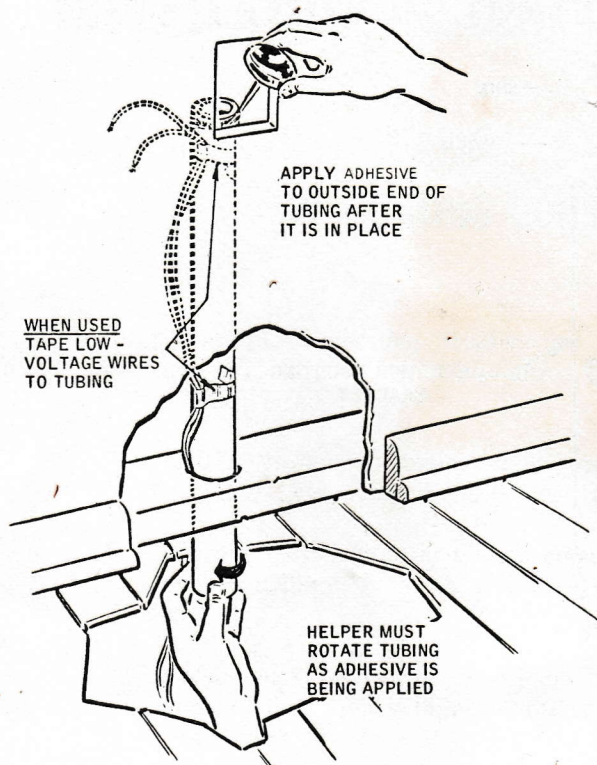

FIGURE 4
5. Bring tubing through access hole in plate even with opening in wall. Coat outside of tubing end with adhesive. (NOTE: If low voltage system is used, tape wires to tubing before inserting tube in wall.) (See Figure 4)